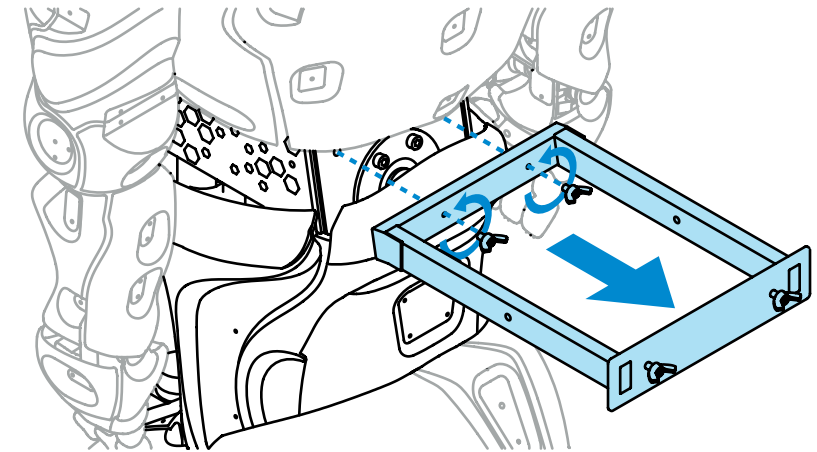
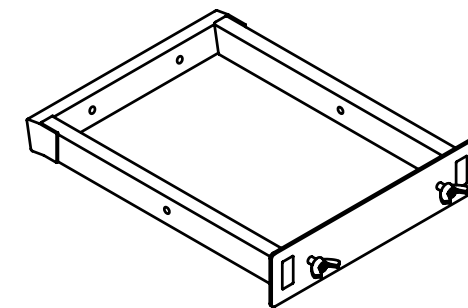

Fig. 5.10. Detaching the retaining bracket
Fig. 5.11. Retaining bracket
8. Detach the retaining bracket from the robot's "waist" by removing the two thumbscrews as shown in Fig. 5.10. The screws can be secured in the bracket itself by screwed holes in the inner side walls of the bracket (Fig. 5.11).